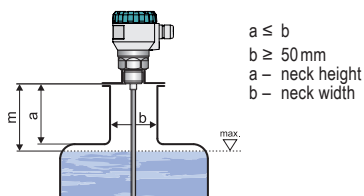

Fig. 6: Level meter installation in the input neck
- For correct measurement, it is important to avoid installing the level meter in a high input neck or high welding flange. If this is not possible, the level meter may be installed in a **short input neck**, the parameters of which are provided in fig. 6. Here it applies that the neck diameter selected should be as large as possible but the neck height should be as small as possible.